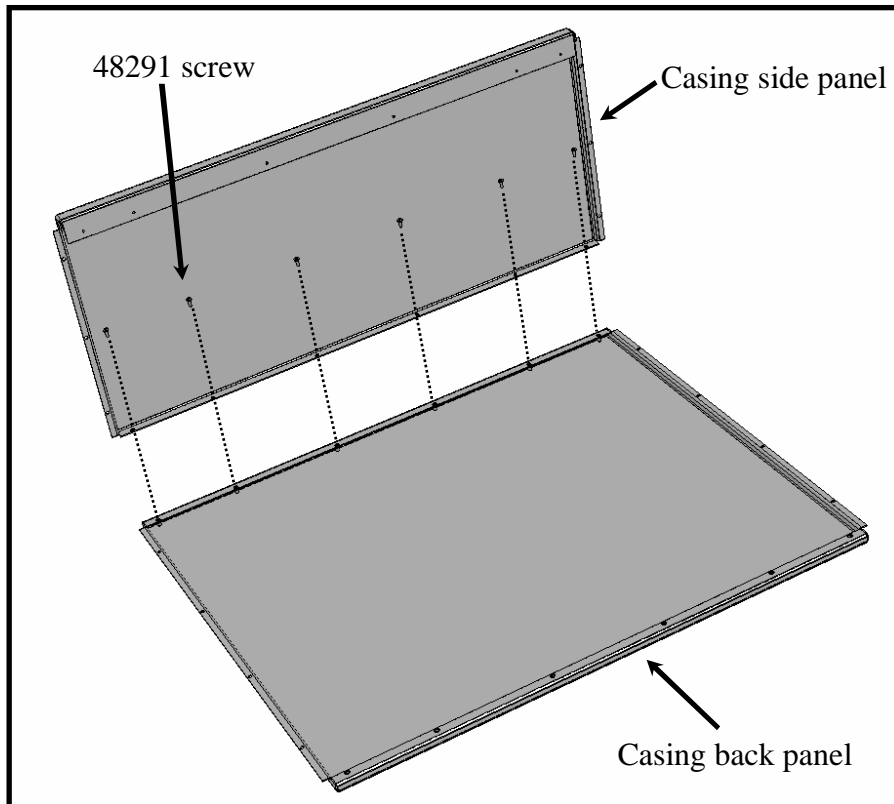

Figure 16 – Casing assembly
- b) Place one side panel into position. Use 48291 screws to attach side to back. *See Figures 16 and 17.*